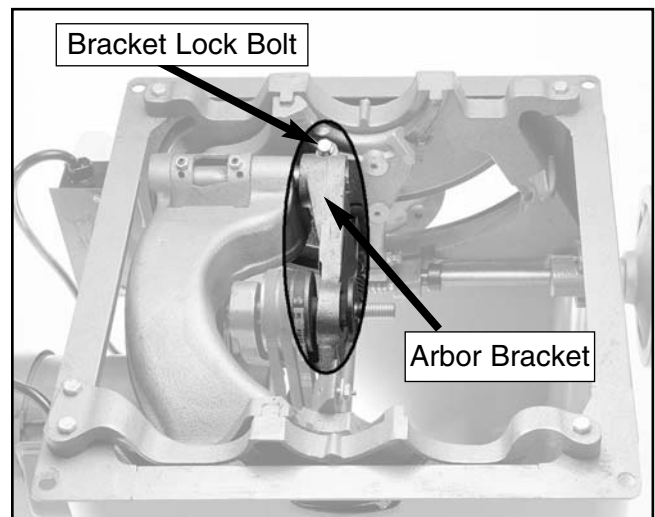

Figure 46. Adjusting arbor bracket.
3. Loosen the bracket lock bolt shown in **Figure 46**.